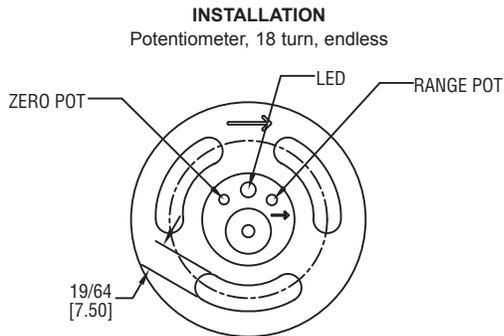

Figure 1
- 2.2 **Orientation to flow:** see Figure 1.